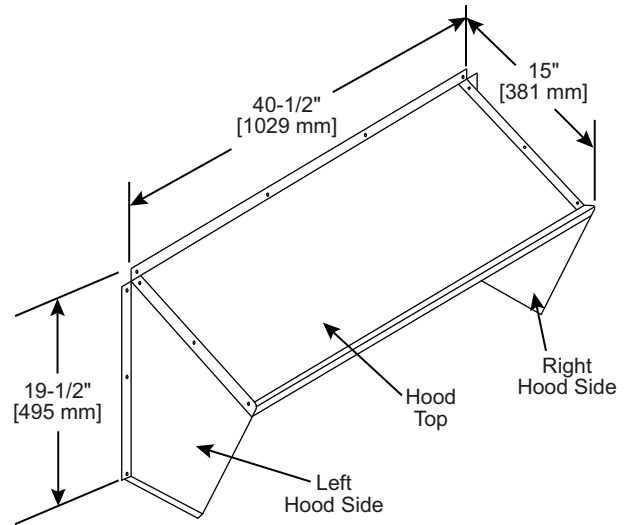

Fig. 36 – CRBARHOD001A00 Hood Sides and Top
5. Using the provided hardware, screw the CRBARHOD001A00 hood sides and top together (see Fig. 36).